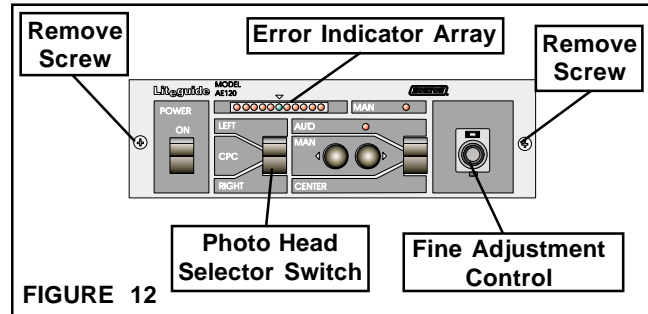

FIGURE 12
1. Remove the two Screws located on the front panel of the AE120 (See Figure 12).
3. Set the Fine Adjustment Control to 5.00 (mid-travel) (See Figure 12).
4. Using the Photo Head Selector Switch located on the front panel, select either the right or left Photo Head (See Figure 12).
5. Insert a piece of material until it completely covers the Photo Head sensing area; then, remove the material. The Error Indicator Array light will show maximum and minimum insertion (up to five red lamps on either side of the green lamp) (See Figures 12 and 13).
6. Rotate the Photo Head Balance pot (**PHB1** For the left Photo head and **PHB2** for the right Photo Head) until the insertion and removal of material lights an equal number of red lamps on either side of the green lamp on the Error Indicator Array (See Figures 12 and 14).
7. Rotate the GAIN (**GAIN 1** for the left Photo Head and **GAIN 2** for the right Photo Head) until the insertion of material lights five red lamps in either direction (See Figures 12 and 14).